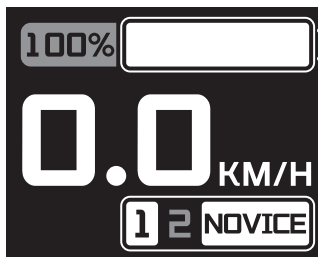

Figure 4.3.3.2
(7) Novice mode display (as shown in Figure 4.3.3.2)